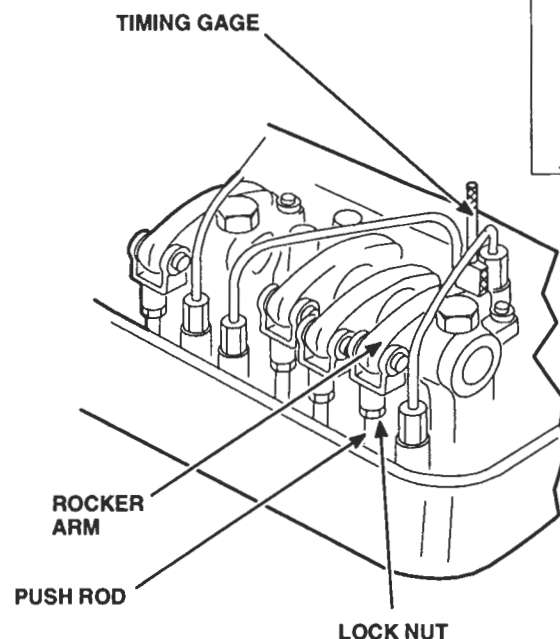

Figure 1. Timing Fuel Injector
3. Place the small end of the injector timing gage in the hole provided in the top of the injector body with the flat of the gage toward the injector follower (Figure 1.) Refer to Table 1 for the correct timing gage (for vehicle engines, see Section 14).